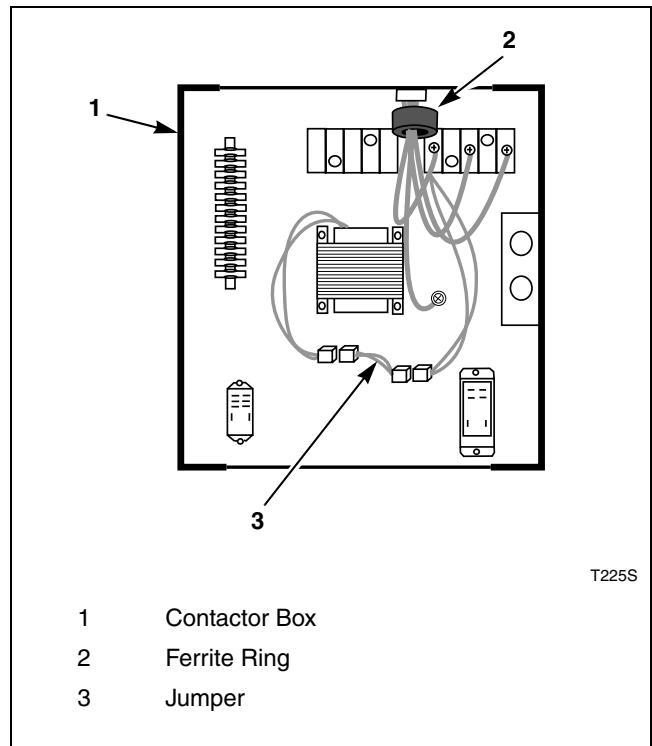

Figure 16
- Snap the ferrite ring closed over all the service leads inside of the contactor box as shown. It is important that the ferrite ring be installed inside the contactor box. Refer to *Figure 16*. Do not install the ferrite outside of the box or other area. Make sure that service leads are in the center of the ferrite before closing the ring so not to pinch or damage leads.